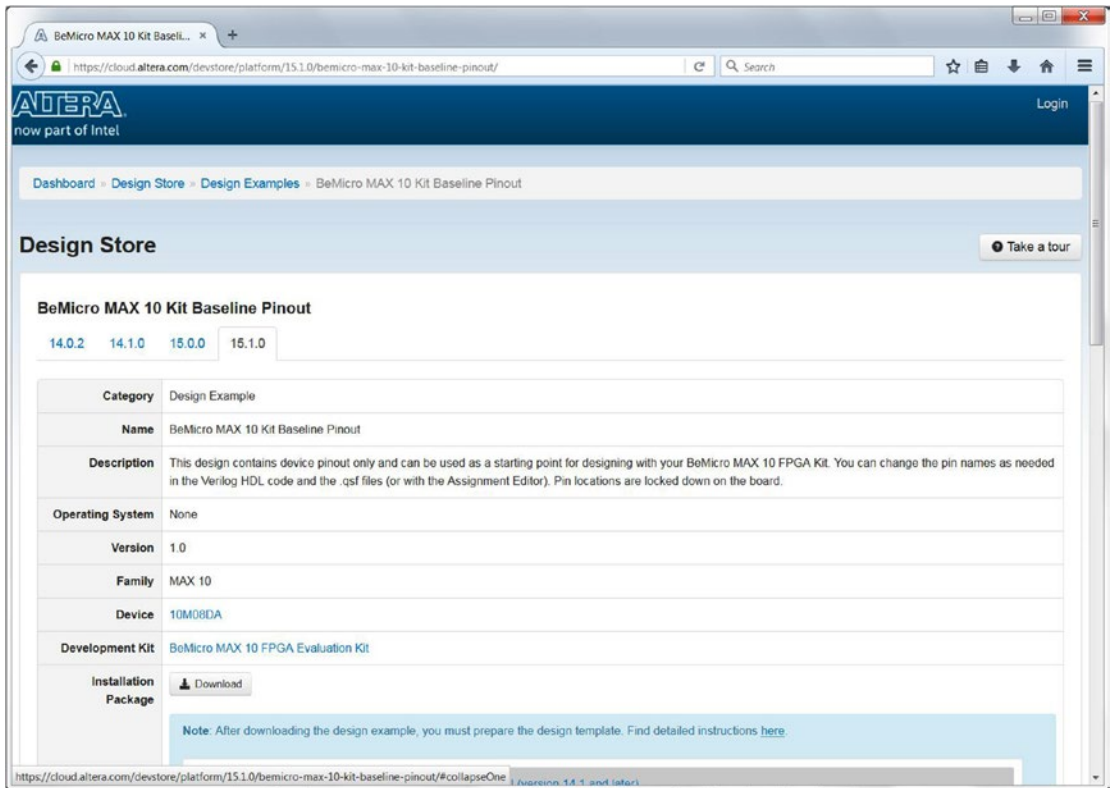

Figure 4-10. Altera Design Store—BeMicro MAX 10 Kit Baseline Pinout
11. Click **Download** on the BeMicro MAX 10 Kit Baseline Pinout page (Figure 4-10). The file name is BeMicro_MAX10_top.par. Go to the next step.